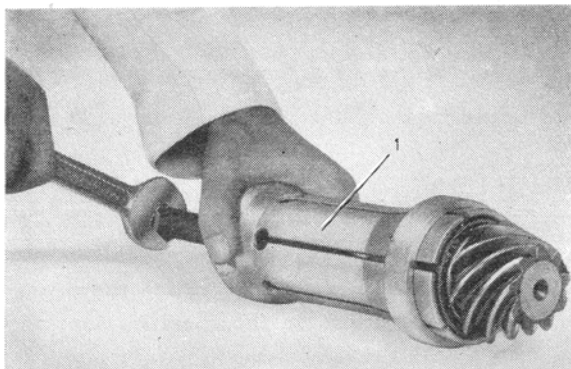

Fig. 12. Removing the rear pinion bearing.
6. If required, pull off the rear bearing (29) from the pinion, fig. 12. Use puller SVO 4191 or SVO 2231. See the table below. There are two different pinion bearings. Check to determine which of these is fitted. If the wrong puller is used, the bearing can be so damaged that it cannot be removed.